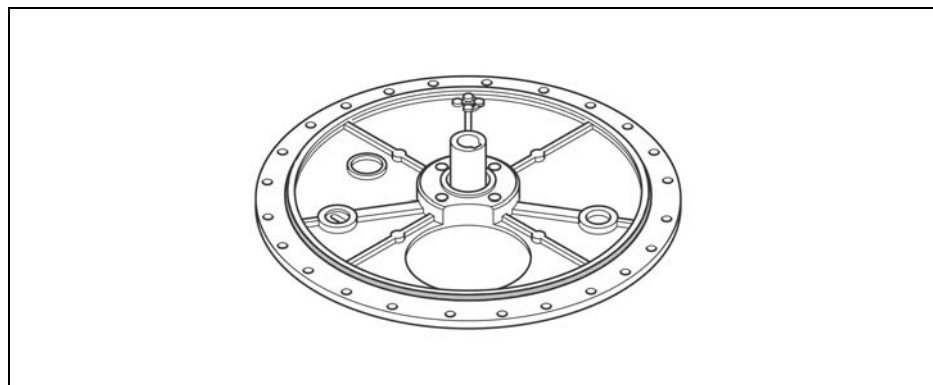

Figure 15 On-load tap-changer head cover gasket
2. Pay attention to the cover gasket (round rubber gasket, **Figure 15**).